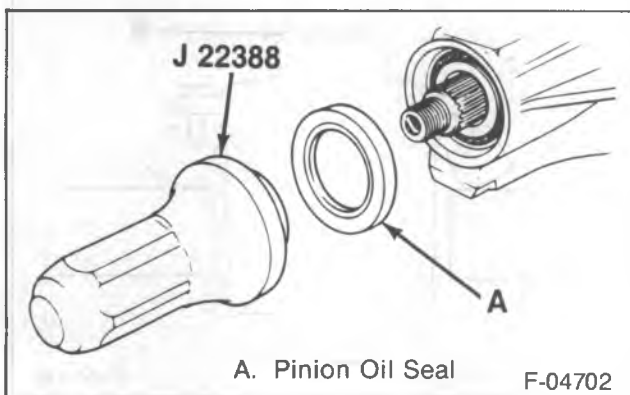
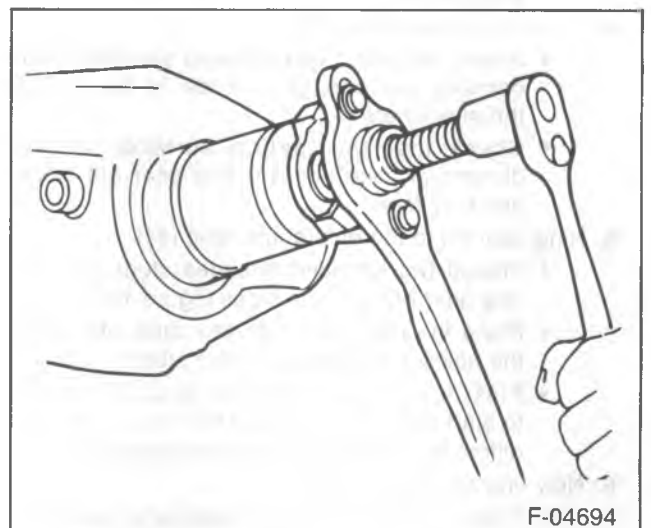

Figure 14—Installing the Pinion Oil Seal
Figure 15—Installing the Pinion Flange
1. The pinion inner bearing (5) using J 8609-01.
2. A new collapsable spacer (4).
3. Pinion (7) to the axle housing.
4. Outer pinion bearing (39) onto the pinion using J 5590.
5. Pinion oil seal (38) using J 22388 (figure 14).
6. Pinion flange (37) to the pinion by tapping it with a rawhide hammer until a few threads show through the pinion flange.
7. Pinion washer (36) and a new nut (35) while holding the pinion flange with J 8614-01 (figure 15).